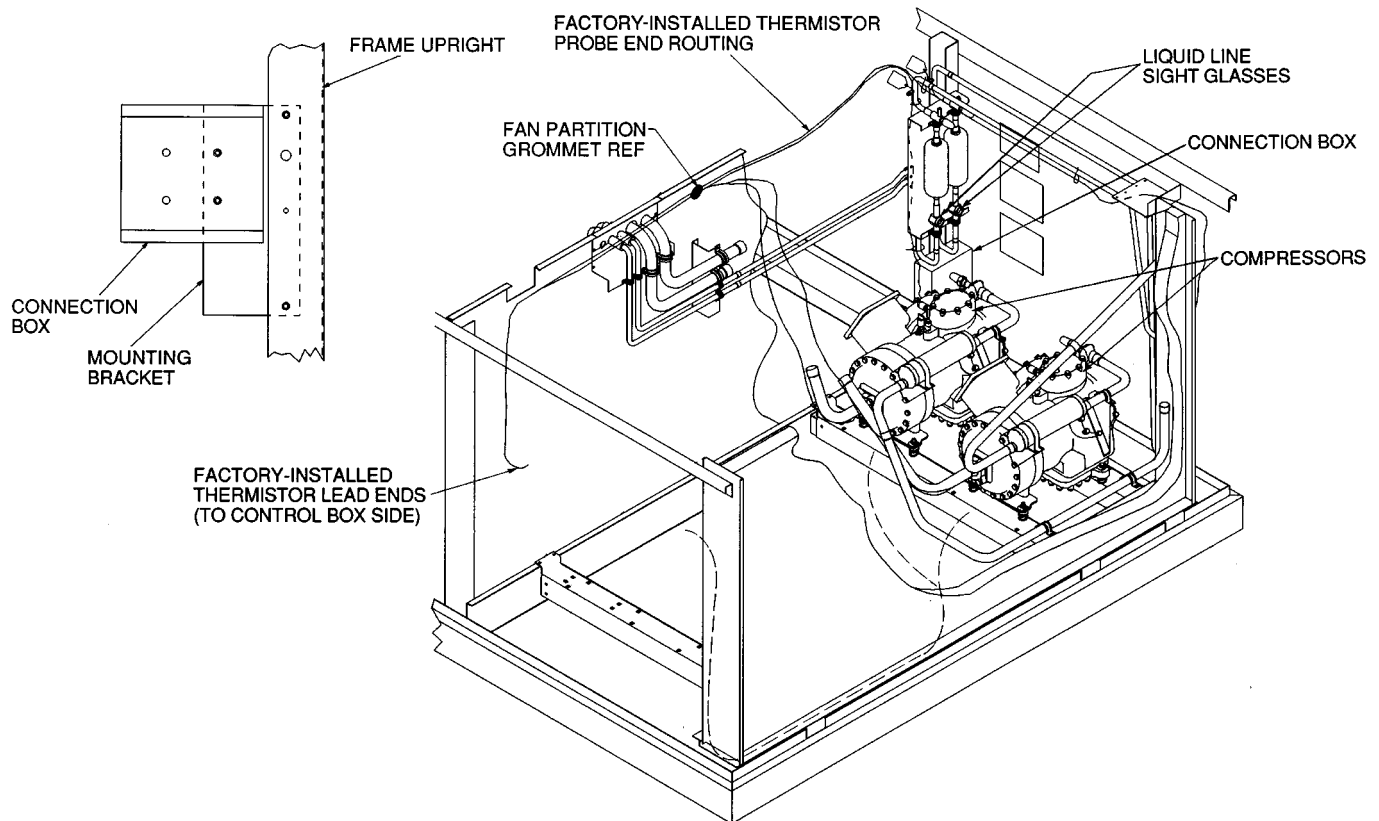

Fig. 7 — Thermistor Probe End Routing, 024-030 Units
2. Mount the sheet metal bracket to the frame (upright) below the liquid line sight glasses (see Fig. 7), using the screws provided.